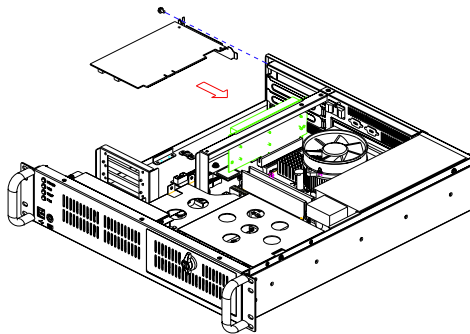

Figure 2.6: Installing the add-on card
2. Remove the corresponding I/O bracket attached to the rear plate of the chassis. Insert an add-on card vertically into the proper slot on the riser card. For full-length cards, please make sure that the card bracket has been inserted properly and the other edge of the card has been inserted into the plastic guiding fillister. Then fasten the screws on the top of the I/O bracket. (see *Figure 2.6*)